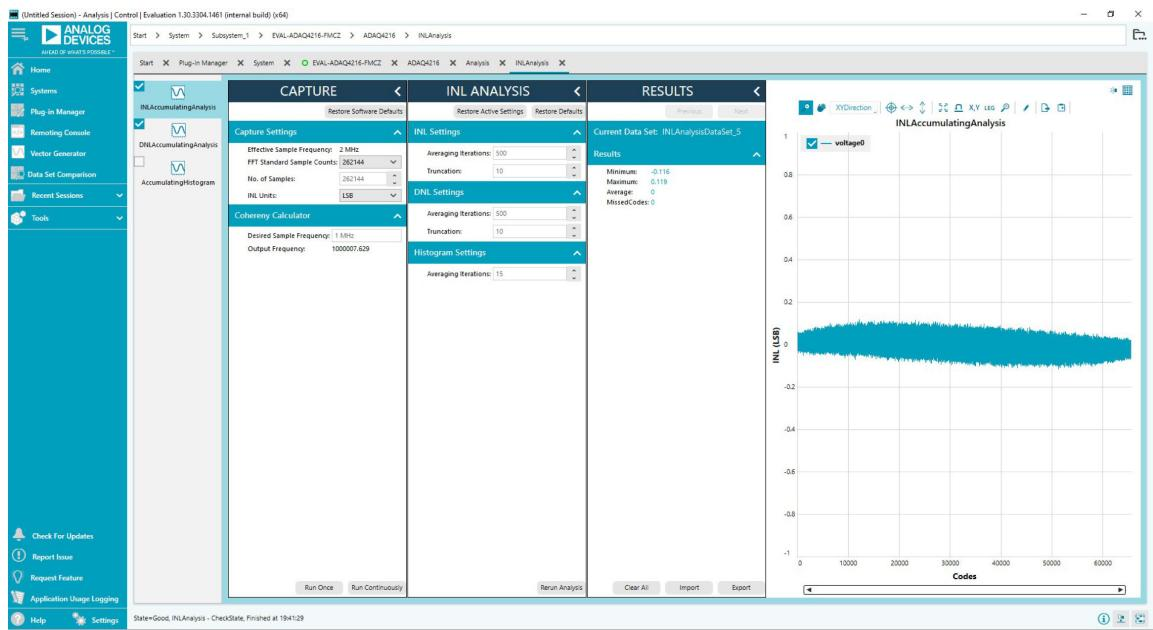
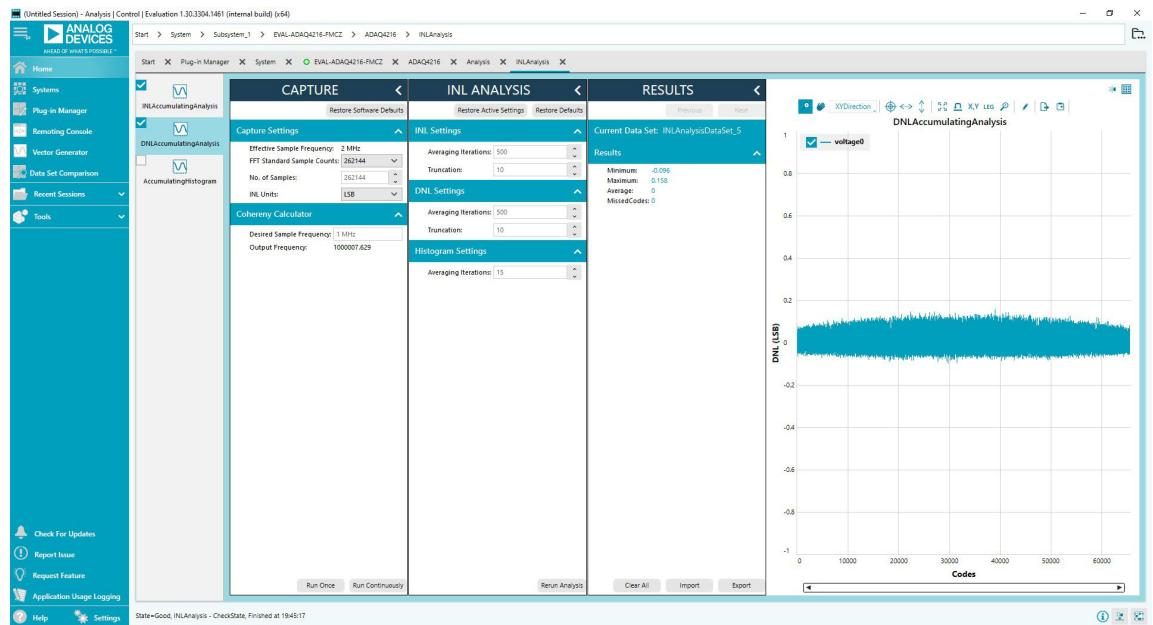

Figure 15. INL Analysis Tab, INL View
Figure 16. INL Analysis Tab, DNL View
7. For INL and DNL analysis, go back to the Chip view tab and click **Proceed to INL Analysis** button. On the **CAPTURE** and **INL Analysis** pane, set the sampling frequency, no. of samples, no. of iterations, truncation, and units. Before doing an INL analysis, modify the EVAL-ADAQ4216-FMCZ and install R67 and remove R59. This connects the VSS_FDA pin of the **ADAQ4216** to the -1V supply. After the INL capture is done, the user can view the results in then INL and DNL views, as shown in Figure 15 and Figure 16.
The INL Analysis tab allows the user to showcase the linearity performance of the ADAQ4216. Before performing any measurements, set the **Capture Settings** and **INL Settings** in the **CAPTURE** and **INL ANALYSIS** pane, respectively, as shown in Figure 15 and Figure 16. To perform linearity test, apply a +0.5dBFS amplitude sinusoidal signal from a precision signal source at the **VIN+** and **VIN-** SMA inputs of the EVAL-ADAQ4216-FMCZ board. **VSS_FDA** also needs to be connected to the on-board **-1V** supply.